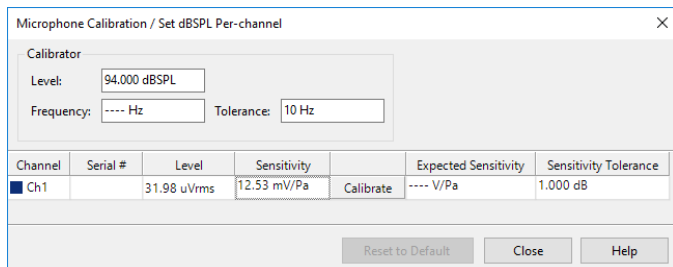

Figure 4. Microphone Calibration dialog.
1. Set the analyzer input mode to Acoustic and press the Mic Cal / dB SPL... button to invoke the microphone calibration dialog (Figure 4). Calibrate the reference microphone to measure sound pressure in pascals and sound pressure level (SPL) in dB SPL.